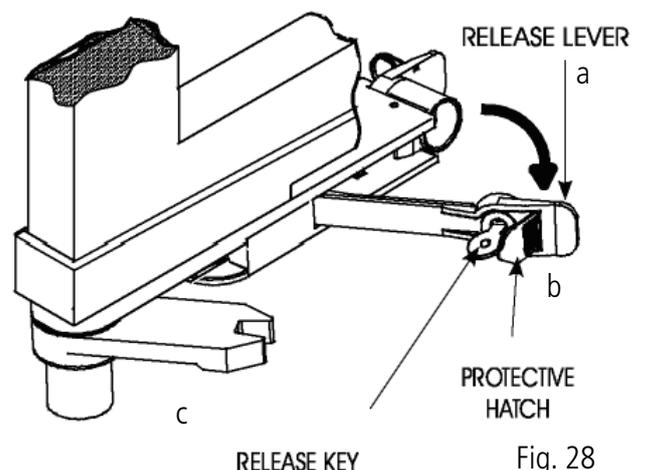

Fig. 28
1. Open the protective hatch (Fig.28 ref.b).
2. Insert the release key in the lock (Fig. 28 ref.c) and turn it clock-wise sense up to its stop point.
3. Pull the release lever toward you (Fig.28 ref.a).
2. Insert the release key in the lock (Fig.28 ref.c), turn it in the opposite direction up to the stop point and remove it.